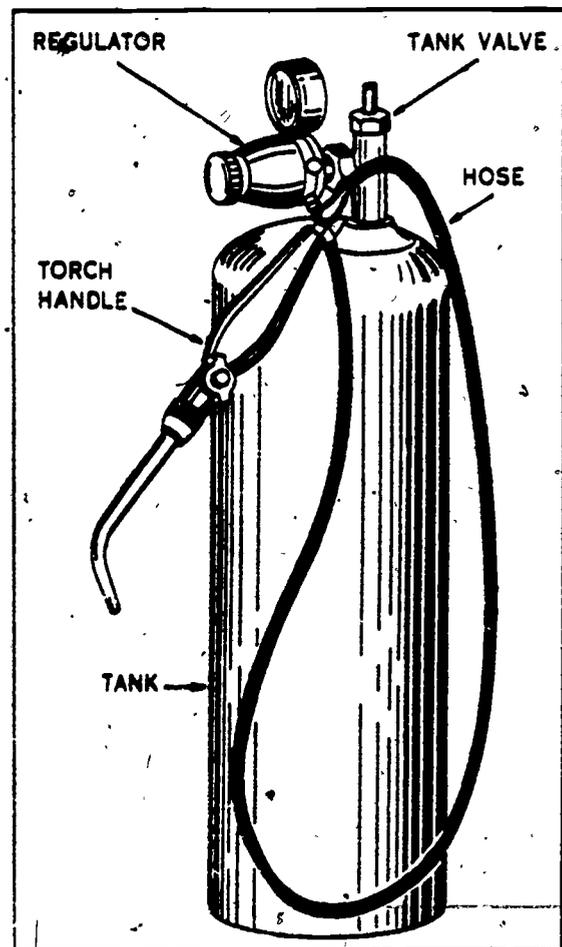

Figure 1-32. Air-acetylene torch
**Soldering equipment.** A high-temperature concentrated flame that will quickly bring the fitting to the melting point of solder is the only heat that is necessary for "sweating" fittings on copper tubing. Fifty-fifty solder (50 percent lead and 50 percent tin) melts at 360° F. and is free flowing at 415° F. Silver solder, which is used for high-pressure lines, has a much higher melting point and is free flowing at over 1000° F. Figure 1-31 illustrates a propane torch that is ideal for sweat soldering small copper lines. When soldering large lines, if it is at all possible, use an air-acetylene torch, like the one illustrated in figure 1-32. This type of torch consists of a small portable cylinder of acetylene gas, a regulator, hose, and torch. The air-